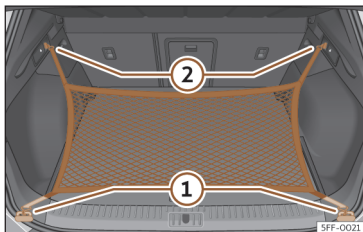

Fig. 183 In the luggage compartment: rings ① and hooks ② for attaching the net bag.
- Secure the short net hooks to the fastening rings >>> Fig. 183 ① >>> ⚠. The bag zip should be facing upwards.
- Secure the straps in the bag hooks ②.